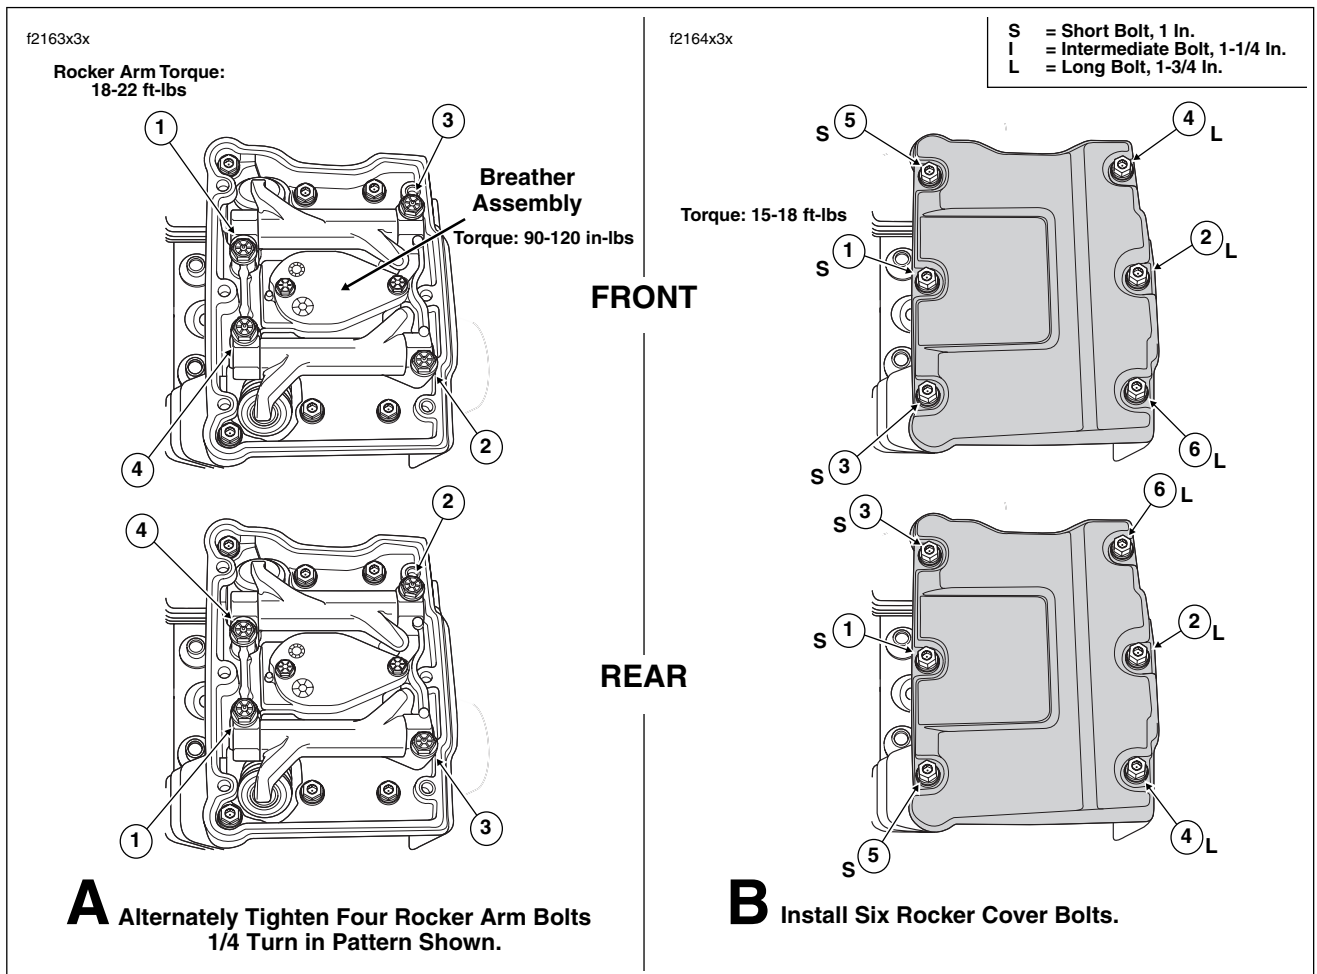

Figure 3-38. Rocker Arm/Rocker Cover Torque Sequence and Bolt Size
34. Alternately tighten each of the four rocker arm support plate bolts just 1/4 turn following the pattern shown in A of Figure 3-38. Continue turning the bolts in these increments until snug. Following the same numerical sequence, tighten the bolts to 18-22 ft-lbs (24.4-29.8 Nm).
39. Apply a small dab of Loctite Medium Strength Threadlocker 243 (blue) to threads of six rocker cover bolts. Start the rocker cover bolts, three short bolts on the left side of the engine, three long bolts on the right. Tighten the bolts to 15-18 ft-lbs (20.3-24.4 Nm) in the pattern shown in B of Figure 3-38.